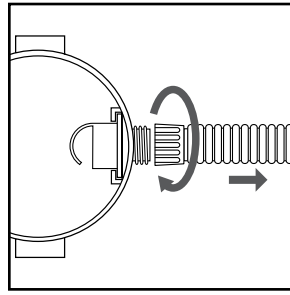

FIGURE 17
25. Unscrew hose locking-nut and remove hose from inlet. (**FIGURE 17**)